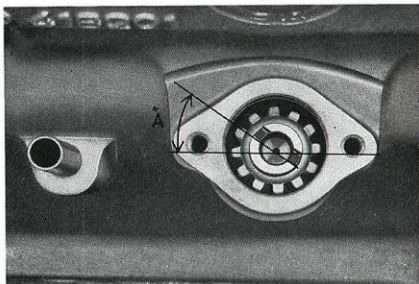

Fig. 2-63. Distributor drive position
When No. 1 cylinder is at top dead center, install the oil pump drive and distributor. The small part at the groove is turned obliquely upwards-backwards and the groove set at an angle of  $35^\circ$  or  $5^\circ$  to the longitudinal axis of the engine, see Fig. 2-63 (A). Make sure that the shaft goes down into its groove in the pump shaft.